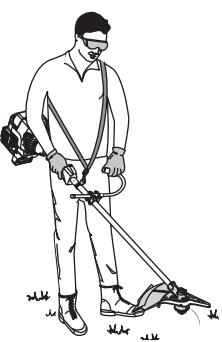

Fig. 3
- While holding the unit in the operating position (Fig. 3), position the J-handle to the location that provides you the best grip.